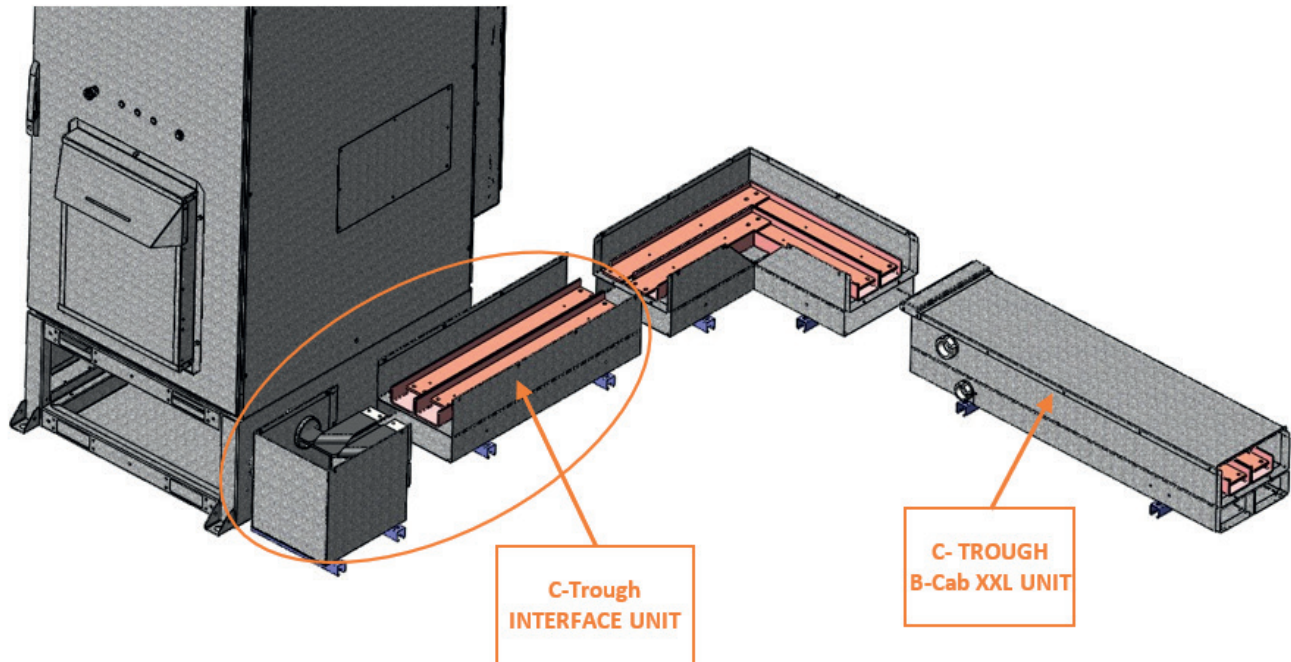

Figure 66. C-Trough Components C-Cab XXL interface
- a. Refer to Figure 66 for a detailed layout of the C-Trough assembly.
- b. Figure 66 also outlines the individual components required for the assembly.
- a. Begin by gathering all components listed in Figure 66.
- **Step 3:** Install the C-Trough corner section as shown in Figure 66.